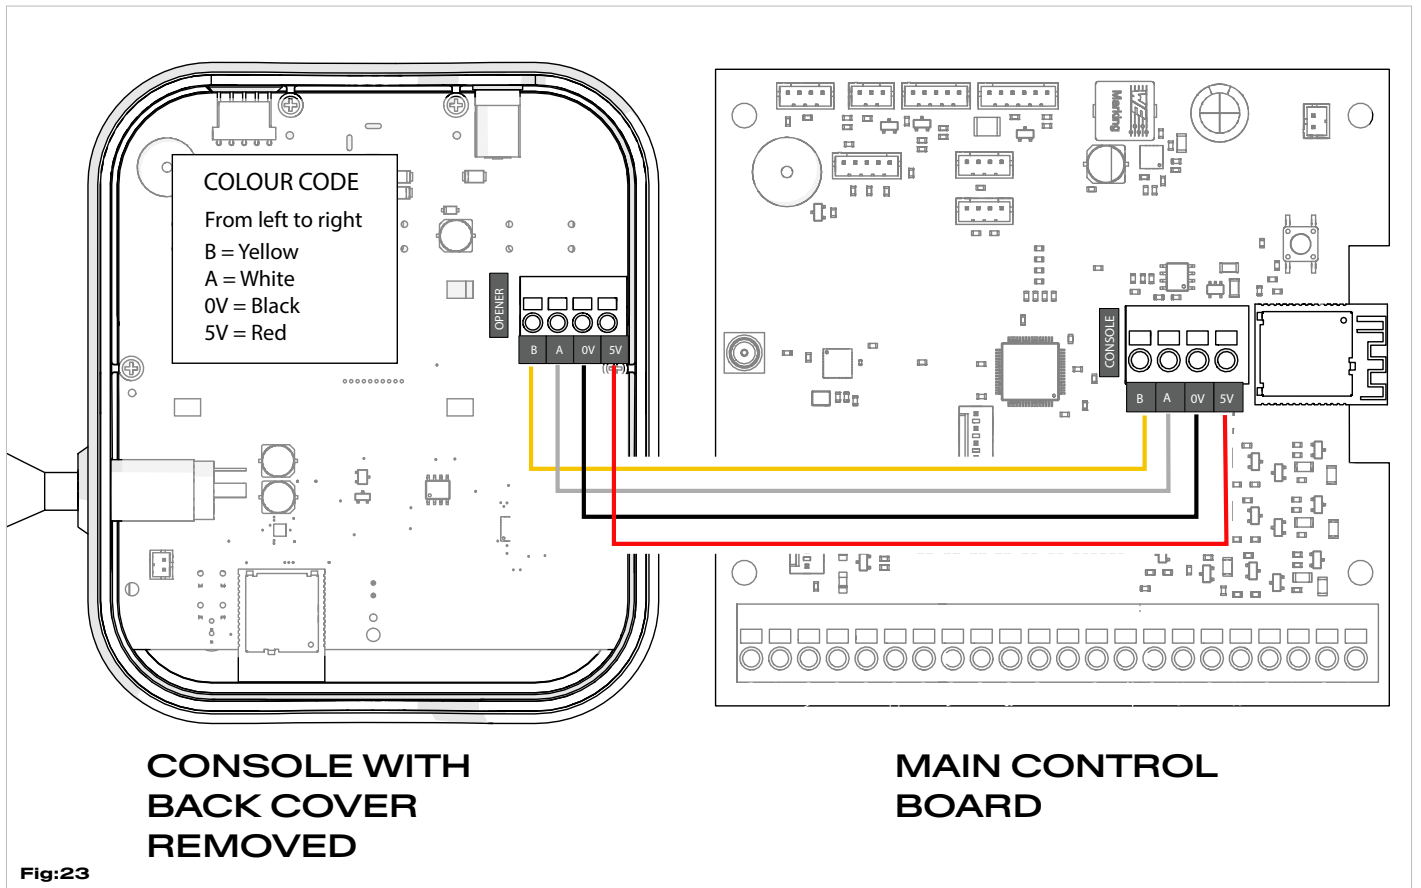

Fig:23
- Feed cable through punch-out, wiring channel and into main control board access compartment - see Fig:23.